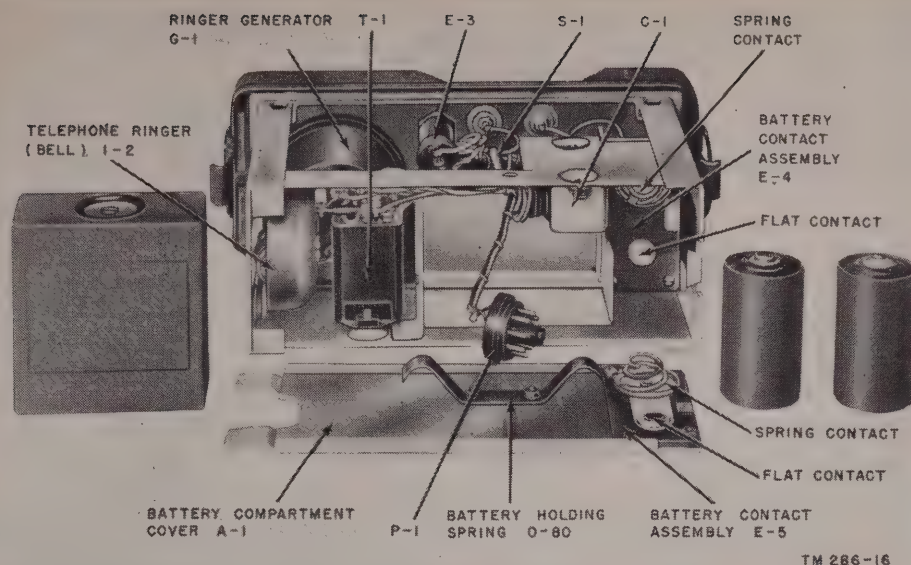

Figure 30. Remote Control C-433/GRC, internal view.
- (1) Release the two snap catches which hold the outer case to the panel-chassis assembly, and remove the assembly from the case.
- (2) Remove the tape which secures the battery compartment cover to the sides of the unit, and remove the cover. Slide the cover back slightly to clear the tab on the left side and lift the cover.
- (3) Install two 1½-volt Batteries BA-30 side by side in the battery compartment. Make sure that one battery rests with the positive terminal against the flat contact and the other with the negative terminal against the spring contact at the bottom of the compartment.
- (4) Install a 45-volt Battery BA-414/U in the large compartment in the chassis frame, so that the octal socket on the battery faces up (toward the rear of the unit).
- (5) Insert octal male plug P-1 (fig. 30) into the socket on the battery.
- (6) Replace the compartment cover by inserting the two projections at the right edge under the bracket angles on the right side of the chassis. Press the cover down and slide it forward until the tab on the right side of the cover slides under the chassis tab. Release pressure.
- (7) Check that the batteries are making contact with the cover.